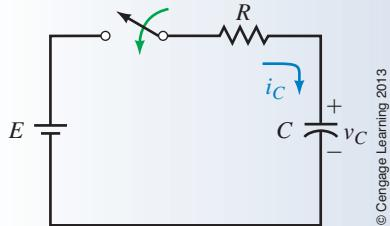

FIGURE 11-11
- The switch of Figure 11-11 is closed at $t = 0$ s. If $E = 80$ V, $R = 4$ k Ω , and $C = 5$ μF , determine expressions for v_C and i_C . Plot the results from $t = 0$ s to $t = 100$ ms at 20-ms intervals. Note that charging takes less time here than for Problem 1.
For the circuit of Figure 11-11, $E = 60$ V, $R = 2$ k Ω , and $C = 25$ μF . The switch is closed at $t = 0$ s, opened 40 ms later and left open. Determine equations for capacitor voltage and current and plot.